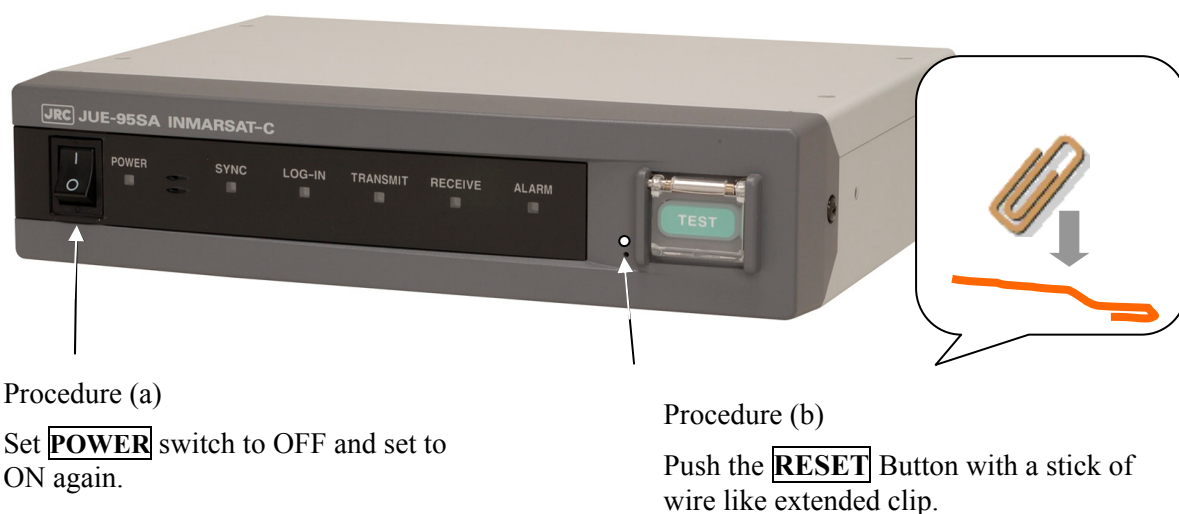

Fig. 4.6 Reset of IME
- (b) Press **RESET** button in the IME panel by the tip of narrow object (like extended clip, $\phi 0.5\text{mm}$). Push until you feel the object clicks. (refer Fig. 4.6)